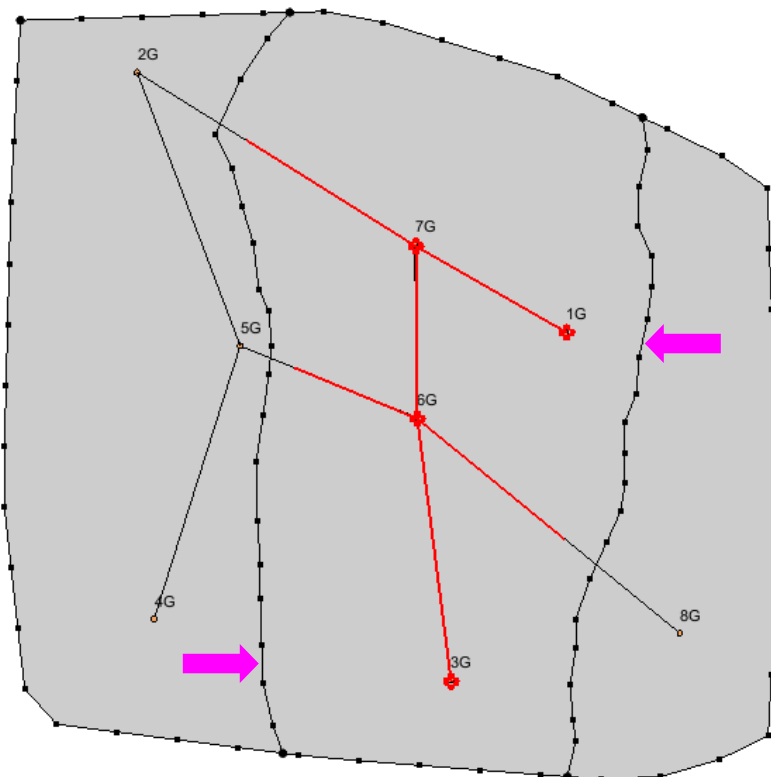

Figure 3 Arcs created in the Horizon 4 coverage
4. Using the **Create Arc**  tool, create two arcs similar to those identified by the arrows shown in Figure 3. Notice that the arcs surround the red highlighting on the cross sections.